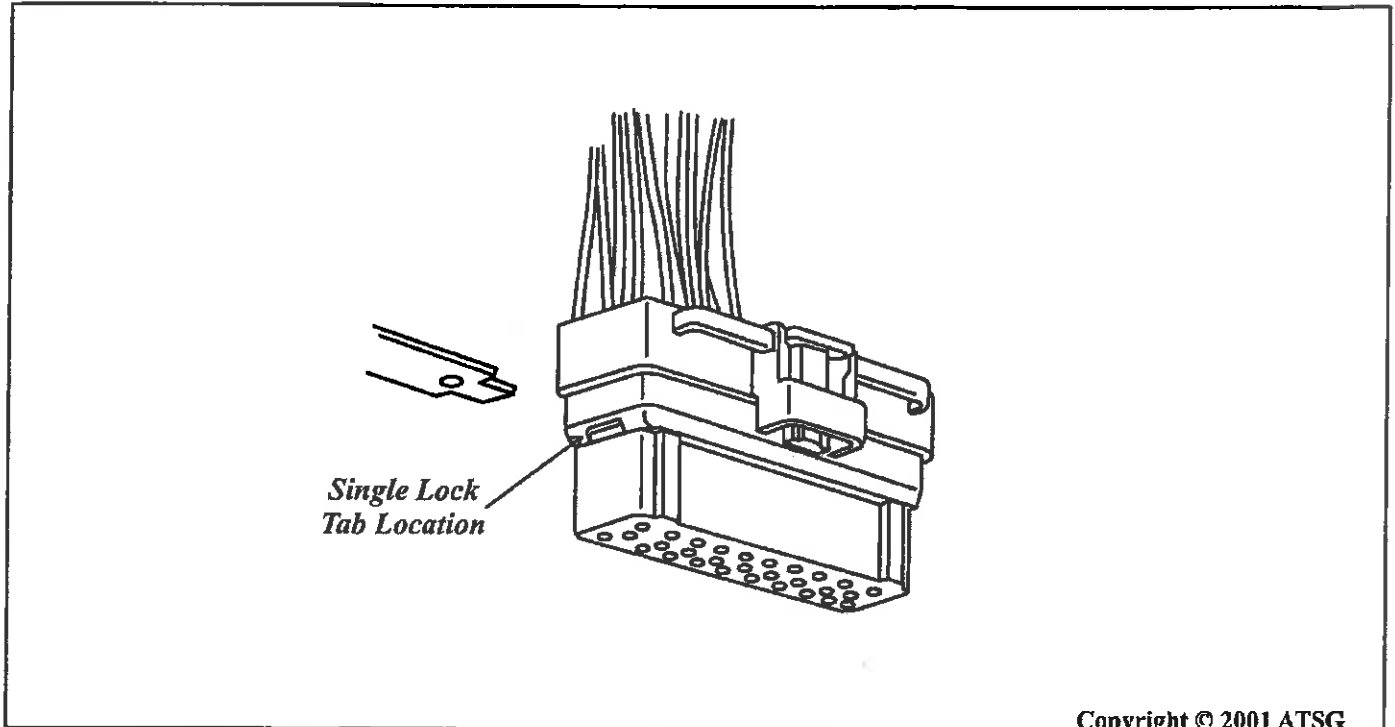

Figure 4
7. To disassemble the connector, push in on the single locking tab as seen in Figure 4.